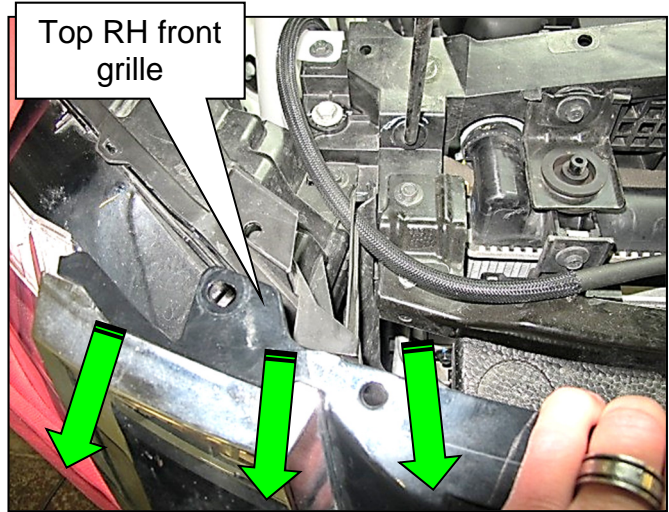
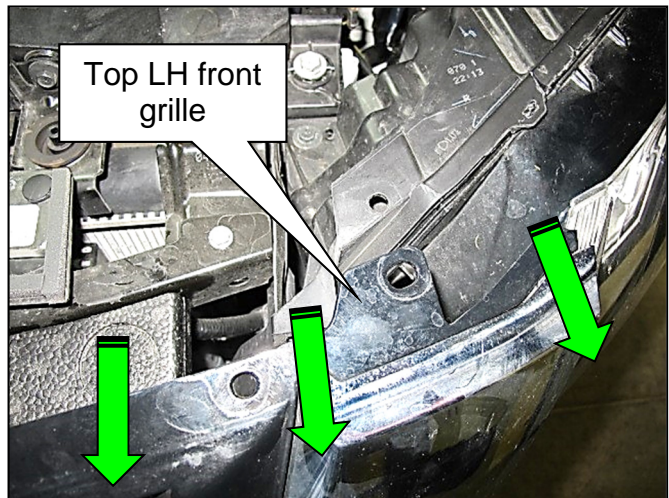

Figure 7
Figure 8
7. Gently pull out the top of the passenger (RH) side (Figure 7) and the driver (LH) side (Figure 8) front grille ONLY.